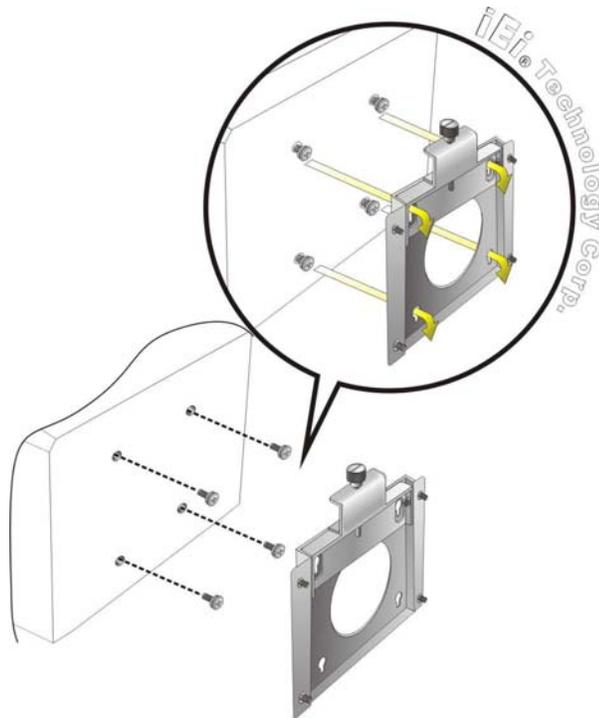

Figure 4-7: Mount the Embedded System
- Step 6:** Insert the four monitor mounting screws provided in the wall mounting kit into the four screw holes on the bottom panel of the system and tighten until the screw shank is secured against the bottom panel (**Figure 4-7**).
- Step 6:** Carefully insert the screws through the holes and gently pull the monitor downwards until the IBX-500A rests securely in the slotted holes (**Figure 4-7**). Ensure that all four of the mounting screws fit snugly into their respective slotted holes.